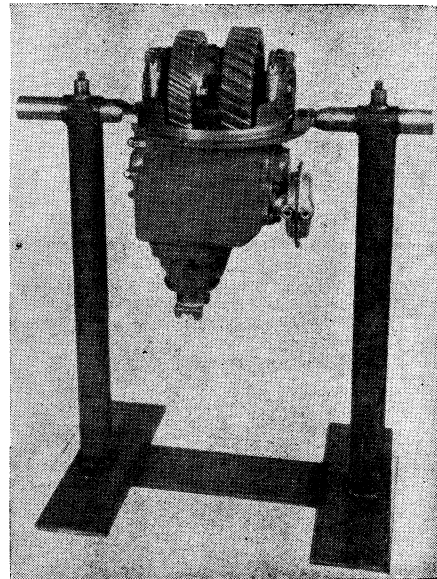

Fig. 4 Carrier mounted in repair stand
10. Place carrier in suitable holding fixture, such as a keg or drum or equipment shown in Fig. 4.